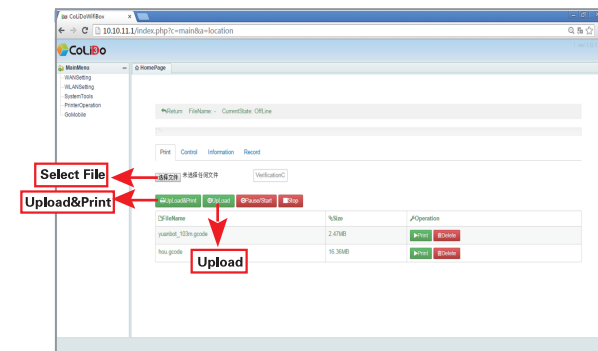

图6
- 4 Print Operation: As Fig. 6 shown below: click on "Upload&Print" to select .GCO format file. Object will start print after upload. If select "Upload", the object G-code will save into the control page, click the "Print" button of the file to start print.